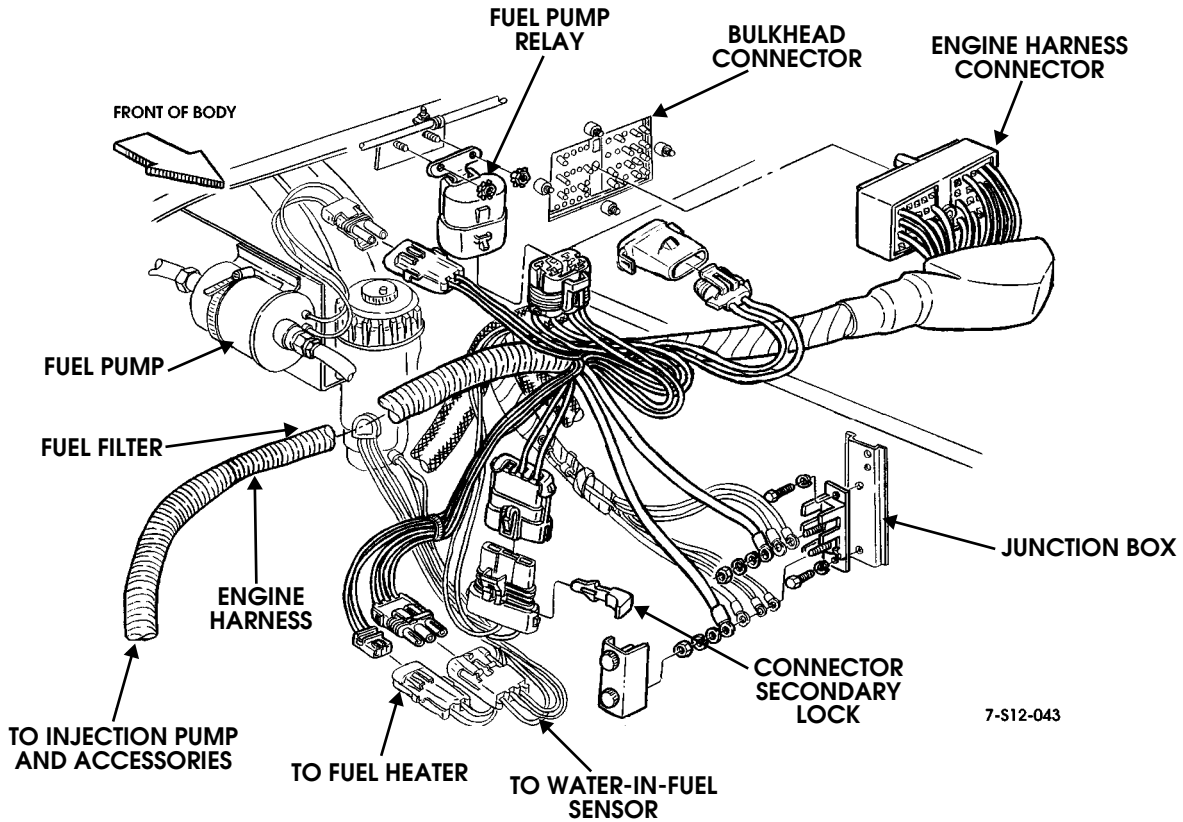

Figure 12-54: Engine Harness (Non-Turbo Diesel)
4. Disconnect following in engine compartment (Figures 12-54 and 12-55)